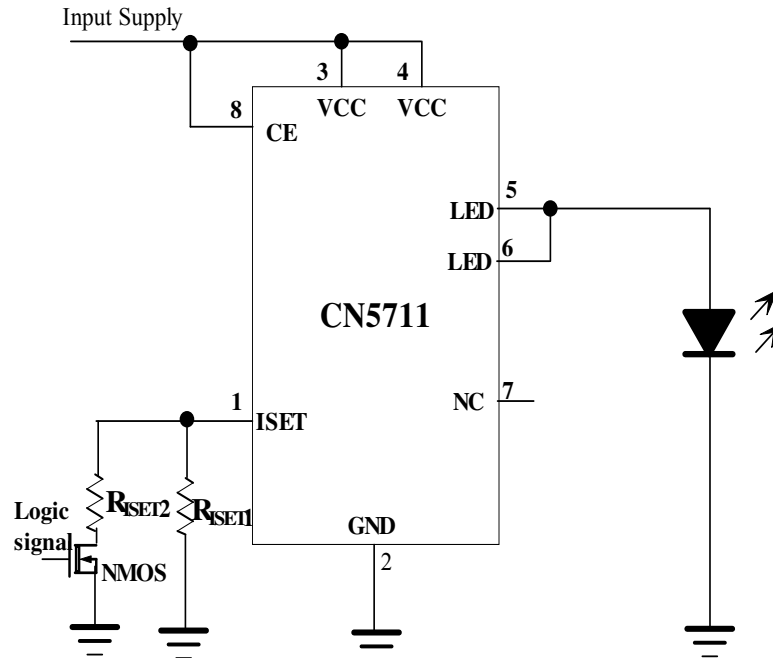

Figure 4 A logic signal to Dim LED
**Method 2:** A logic signal is applied to the gate of an NMOS as shown in Figure 4.